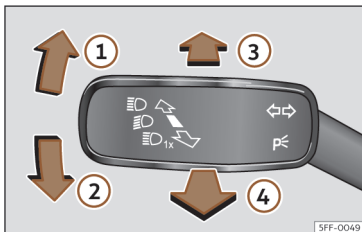

Fig. 108 Turn signal and main beam lever (depending on the version).
- From the neutral position, press the turn signal and main beam headlights lever forwards >>> **Fig. 108 ③**.
- **EITHER**: if main beam assist is on, pull the turn signal light and main beam headlights lever back >>> **Fig. 108 ④**.